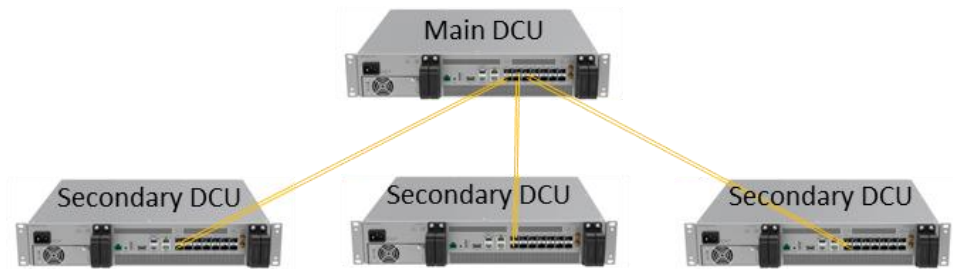

Figure 12. DCU Star Connection
- Flexible networking for different deployment strategies: The DCU supports daisy chain and/or star connections* as shown in Figure 12, where distributed deployments can be enabled, e.g., remote site deployment.